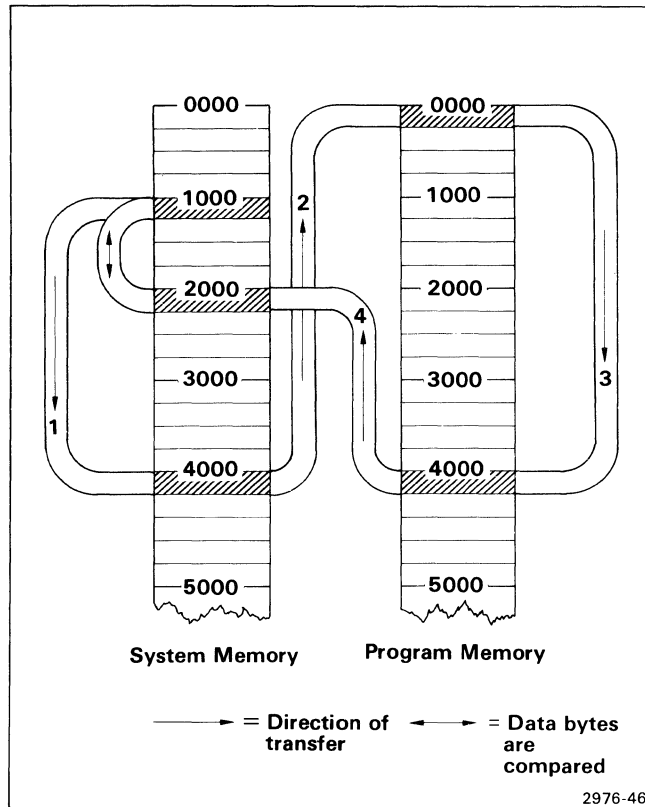

Fig. 3-7. Memory map of DMA data transfer.
11. The test compares the 256 data bytes from the original starting address of 1000 in system memory with the 256 data bytes transferred to the starting address of 2000 in system memory. The comparison is made after the data has been transferred four times, as shown in Fig. 3-7. If the original data does not match the transferred data, the error code RO=08 is displayed in register RO on the System Terminal.